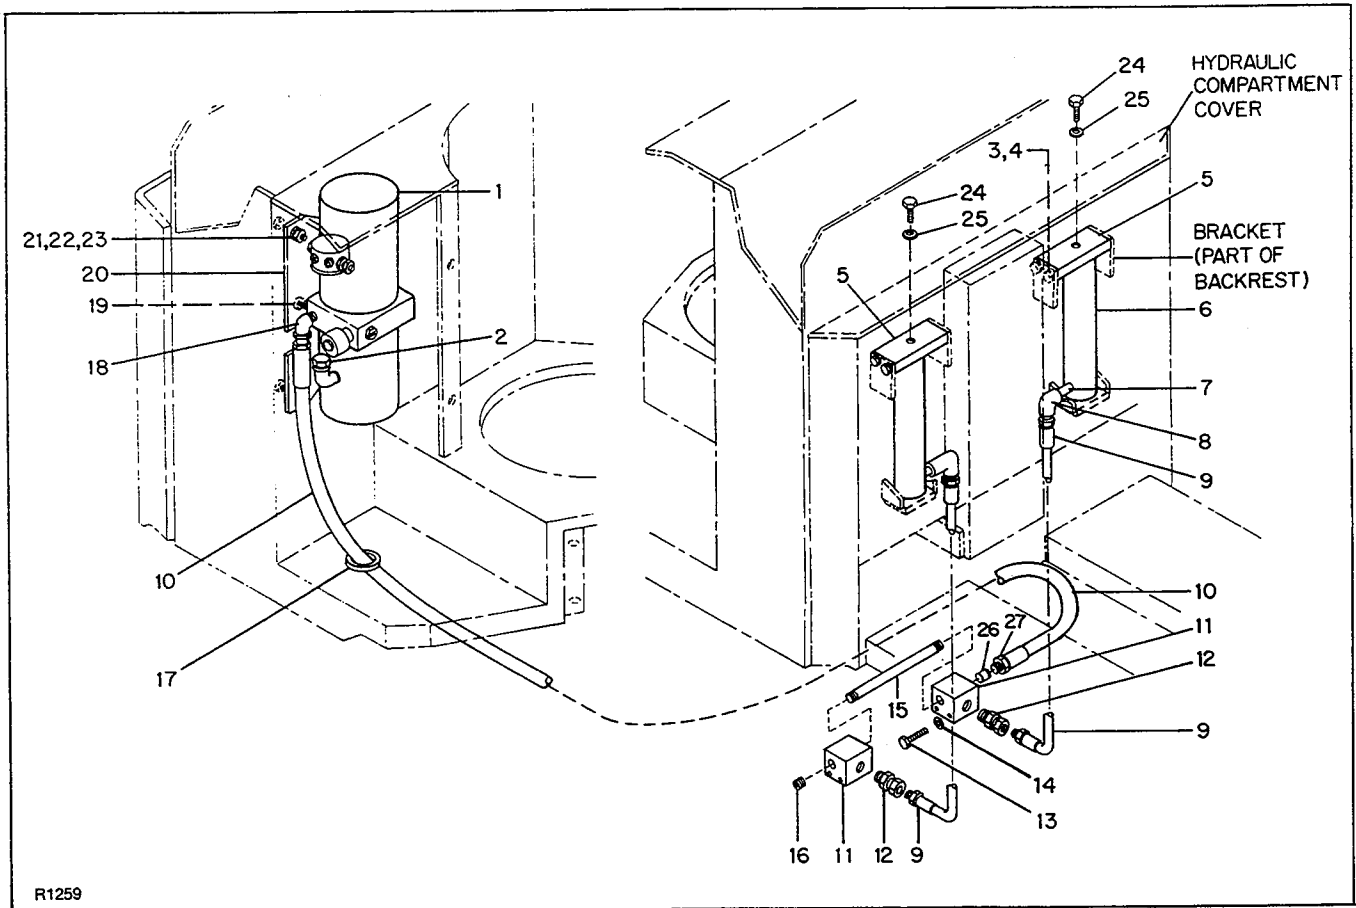

Figure 3-25. Hydraulic System
b. Lift Cylinder Removal. (Figure 3-25)
7. Remove lock washers and screws (3 and 4, figure 3-25) from the backrest/fork brackets nearest the lift cylinder that is to be removed. Remove the mounting bar (5).
- Insert special tool, part number 900030 into the end of the lift cylinder as shown in rest of figure 3-25.